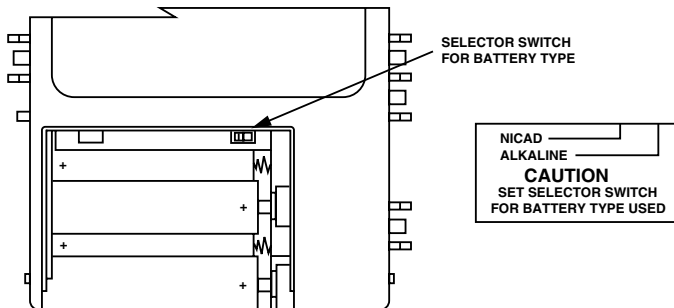

Figure 4-1. Battery Installation and Selector Switch
The Battery-Selector Switch is on the inside edge of the battery compartment as shown in Figure 4-1.
4. Install four (4) 1.5-volt AA NiCad or Alkaline batteries as shown in Figure 4-1.